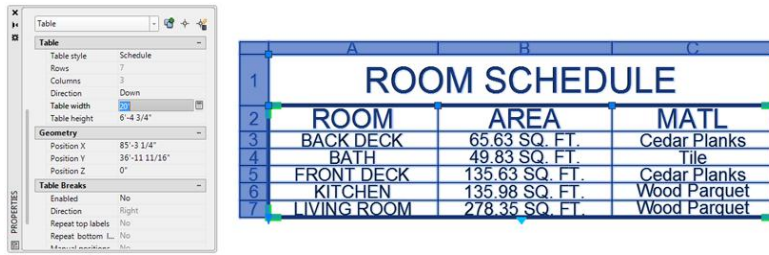

FIGURE 9.80: Adjusting the width of the ROOM SCHEDULE table
3. Change the Table Width property within the Table group to 20' (6 m), as shown in Figure 9.80.